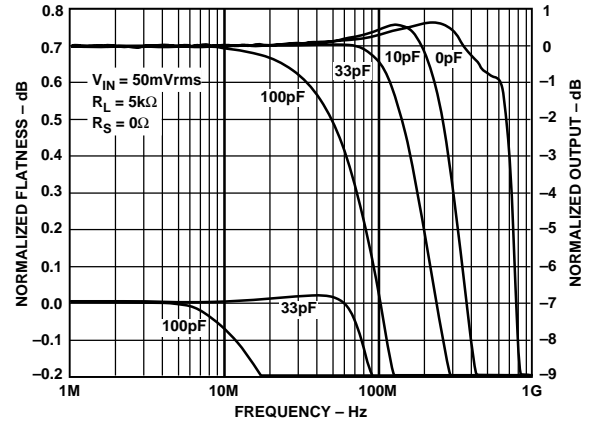

Figure 18. Frequency Response vs. Capacitive Load
- ⁴Decreasing R_L slightly lowers the bandwidth. Increasing C_L significantly lowers the bandwidth (see Figure 18).